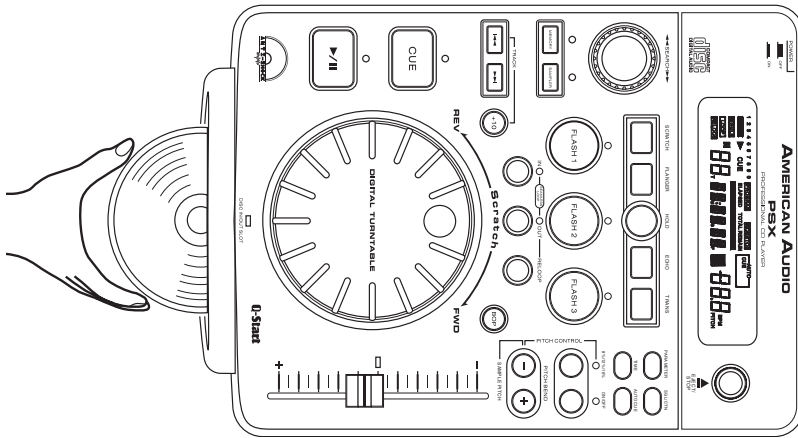
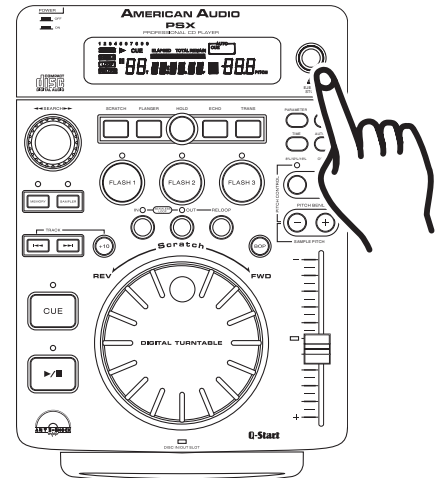

Figure 7: When inserting a disc always hold the disc by it edges and load the disc label side up.
Figure 8
The PSX™ can only play regular 5 inch CDs. 3 inch, odd shaped, and oval CDs are not compatible. When loading a CD into the player always hold the disc by it edge (see Figure 7). Load the disc label side up and slide it in the disc slot. Never touch the signal surface (the glossy side). To remove a disc from the slot press the *EJECT/STOP BUTTON* (31), see Figure 8.